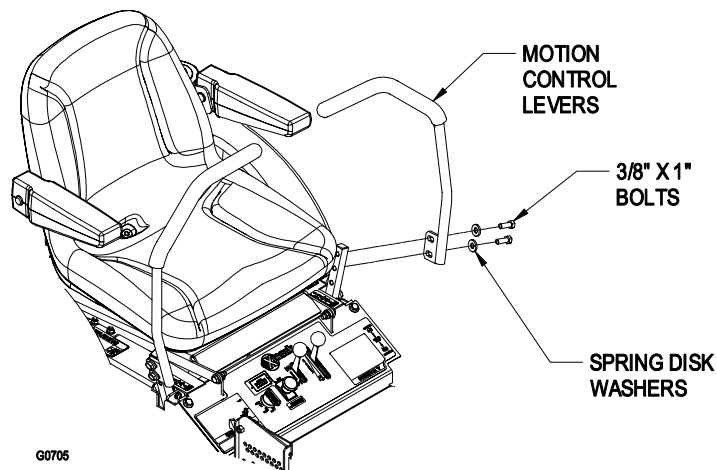

FIGURE 13
- a) Align the levers front/rear position. With the levers in the neutral position, loosen the hardware and adjust the levers sliding and/or tilting the lever(s) forward or backward until properly aligned and tighten hardware (See Figure 13).